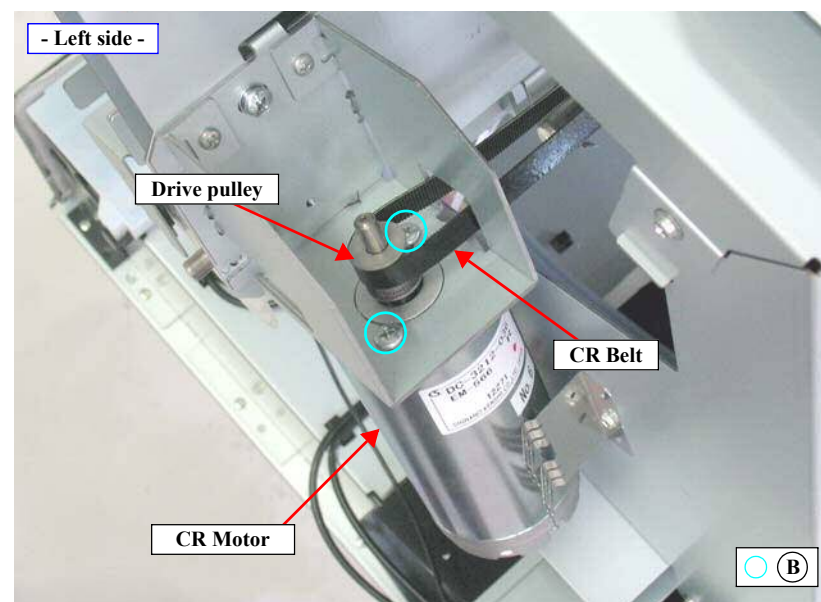

Figure 4-68. Removing the CR Motor
*NOTE: There is no Maintenance Tank (L) mounted for the Epson Stylus Pro 7700/7710/7700M/7710M/7900/7910/WT7900/WT7910/7890/7908.*
11. Remove the two screws that secure the CR Motor, and remove the CR Motor. *See Figure 4-68.*